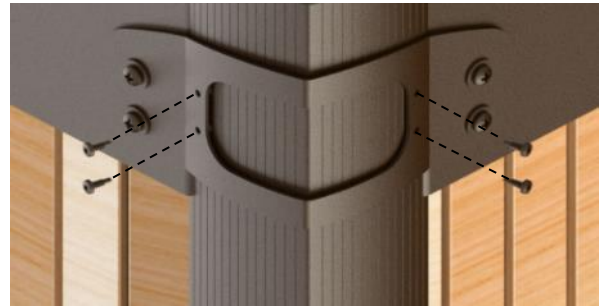

Figure 75
- 5) Then, use four #8 x 1/2" self-tapping Robertson screws to fasten one bracket to its post. (Figure 75) Tighten with care; self-tapping screws can break when screwed in too hard.